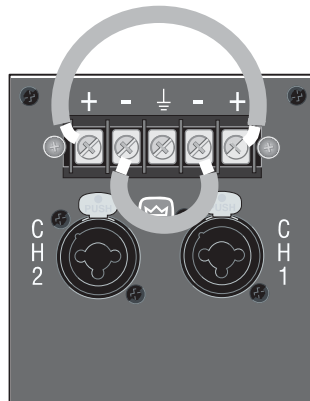

Figure 2.18 Jumper Positions to Parallel the Inputs
2. Feed your signal to the Channel-1 input (either barrier-block or XLR/Combo). Connect a jumper wire (Figure 2.18) between the barrier-block Channel-1 (+) screw terminal and the Channel-2 (+) screw terminal. Connect another jumper wire between the Channel-1 (–) screw terminal and the Channel-2 (–) screw terminal.